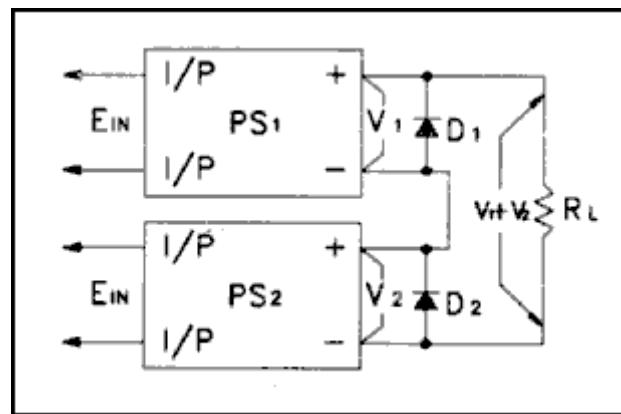

Fig. 16
**b.** Fig. 16 illustrates a sample setup for series connected power supplies. The diode, connected directly across the output terminals, is also recommended in any application where a reverse voltage may be applied to the power supply's output. As a general guide, the diodes should be Schottky Barrier with a reverse voltage more than twice the output voltage and rated output current more than twice the rated output current or short-circuit current whichever is greater.